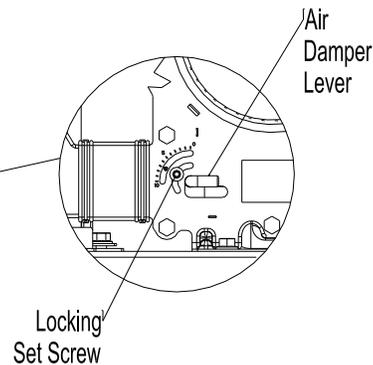

FIGURE 5
- 4) Locate the air damper lever (figure 5 below). Observe the position of the arrow on the lever relative to the calibration numbers directly to the left. (0 is fully closed and 10 is fully open). (Note: Factory calibration starts out at close to 6).
- 5) Locate and loosen the locking screw (figure 5) and rotate the lever counter clockwise until black smoke appears from the burner exhaust vent. Note which number the arrow now points to.